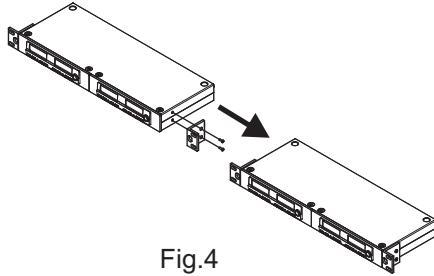

Fig.4
1. Single half-rack receiver or Single 1-rack receiver: Install the optional rack mount kit and fasten with screws on both sides, Fig. 4.